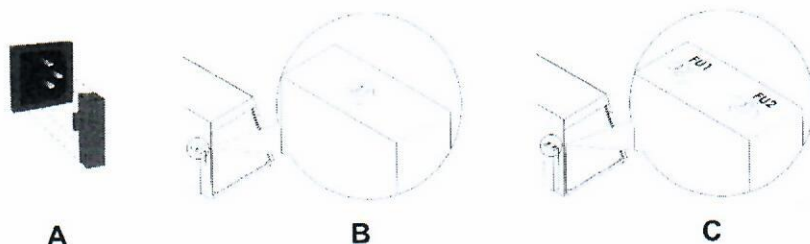

Fig. 4. Fuse replacement
- 7.3.1. Fuse for the control box. Disconnect the unit from electric circuit. Remove power cable from its socket on the rear side of the unit. Open the fuse holder by pulling out the holder (fig. 4/A, compact models) or by screwing off the holder lid marked FU2 (fig. 4/C, model UVT-S-AR). Check the fuse and replace if necessary, **M** 3.15 A (type **M** - time lag: **Medium**).
- 7.3.2. Fuse for the mains outlets (for models with built-in mains outlets). Disconnect the unit from electric circuit. Open the fuse holder by screwing off the holder lid (fig. 4/B or 4/C, FU1). Check the fuse and replace if necessary, **M** 5.0 A (type **M** - time lag: **Medium**).